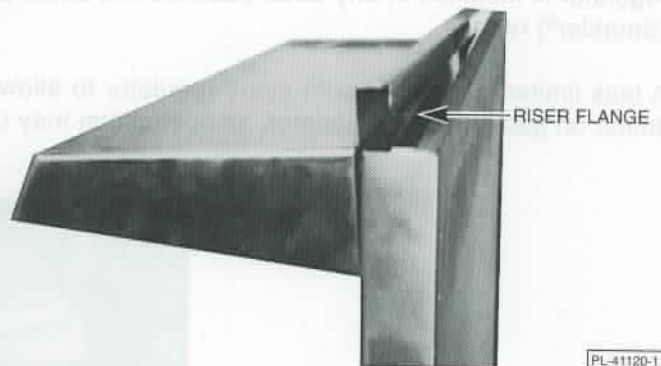

Fig. 10
7. Hang shelf over riser flange (Fig. 10).